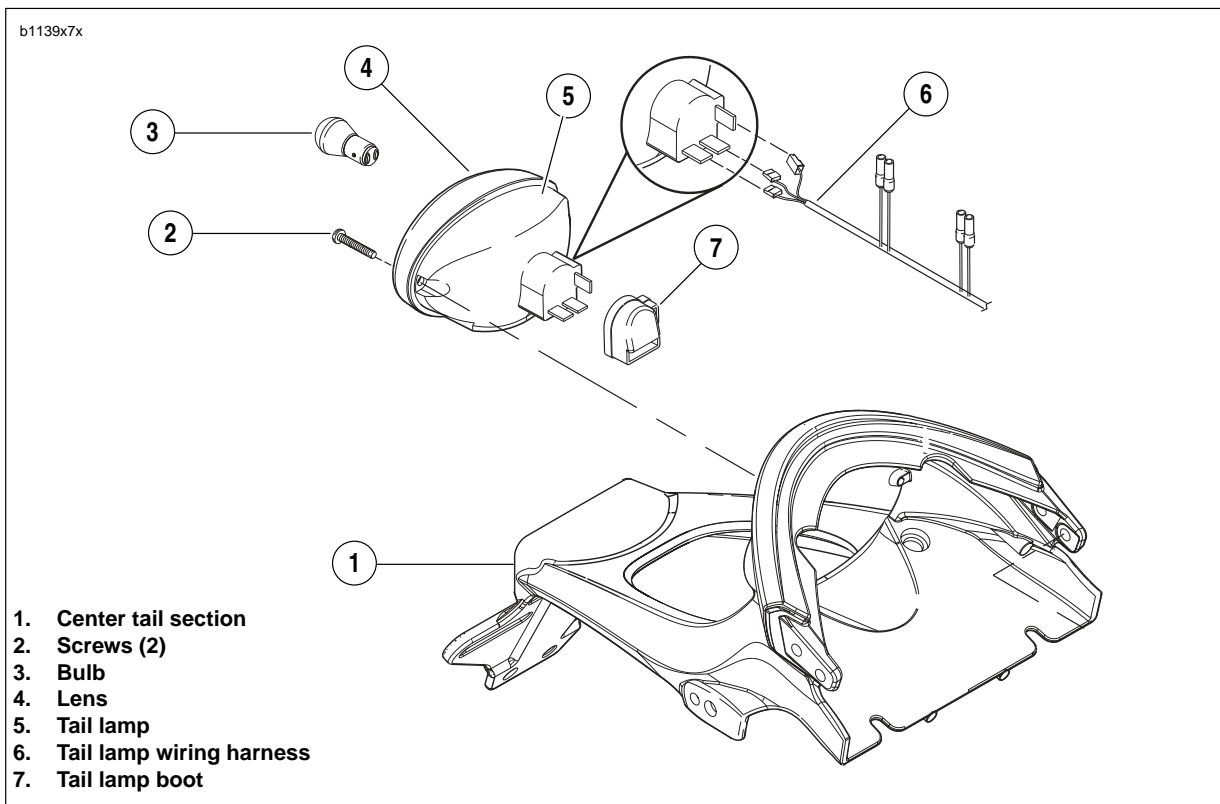

Figure 7-54. Tail Lamp Assembly
1. See Figure 7-54. Remove two screws (2) to detach tail lamp lens (4) and tail lamp (5). If replacing bulb (3), turn counterclockwise and remove.
3. Disconnect three connectors [93] from tail lamp harness (6).
1. See Figure 7-54. Attach the three tail lamp harness connectors [93] (7).
2. If removed, install tail lamp bulb (3).
- b. Install tail lamp lens (4) and tail lamp (5) with two fasteners (2). Tighten to 6-7 in-lbs (0.7-0.8 Nm).